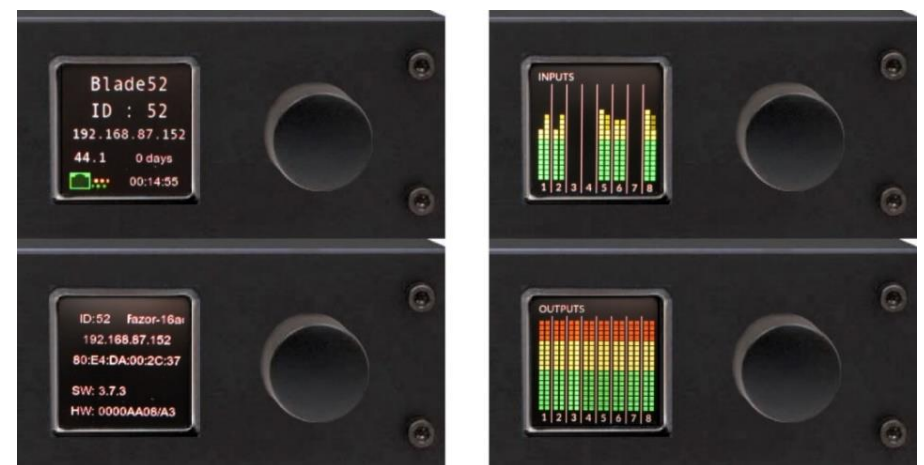

Figure 2-11 Razor front panel OLED displays
Figure 2-11 shows the four screens. The first two screens show the Razor's technical details including its system name (Blade 52), ID# (52), IP address (192.168.87.152), sample rate (44.1), Ethernet connectivity (icon in the lower left corner), and how many days and hours it's been in operation. The second technical display shows the Razor's ID and IP address along with the type of Razor (16AD), its MAC address (80:E4:DA:00:2C:37), software revision (v3.7.3) and hardware/firmware build (HW: 0000AA08/A3).